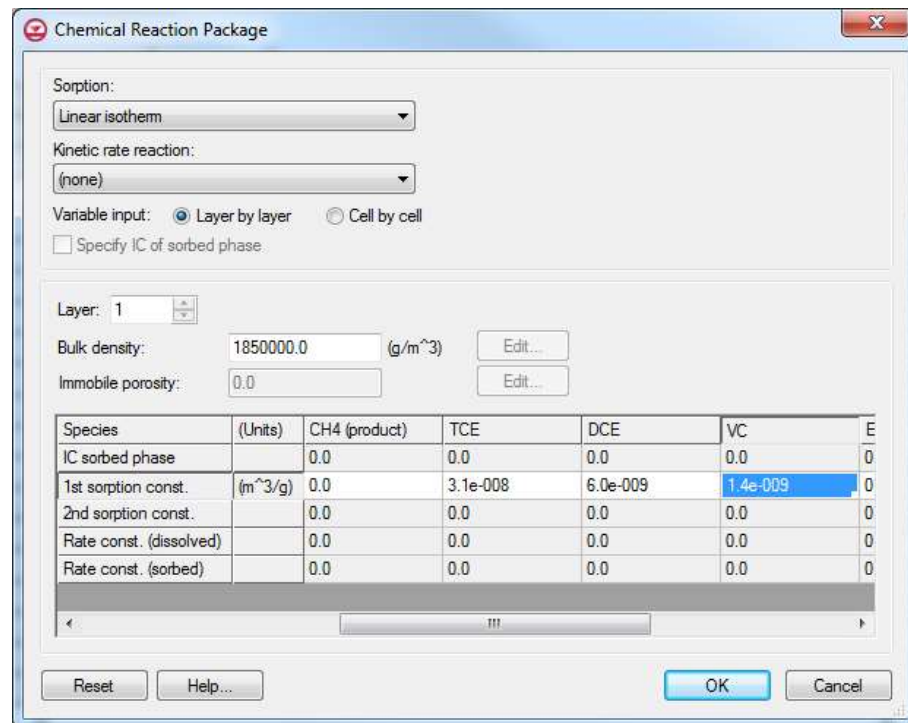

Figure 2 Chemical Reaction Package dialog
3. Enter the values shown in Figure 2 for *Bulk Density* of “1850000.0” and *1st sorption const.* values for TCE (3.1e-008), DCE (6.0e-009), and VC (1.4e-009).